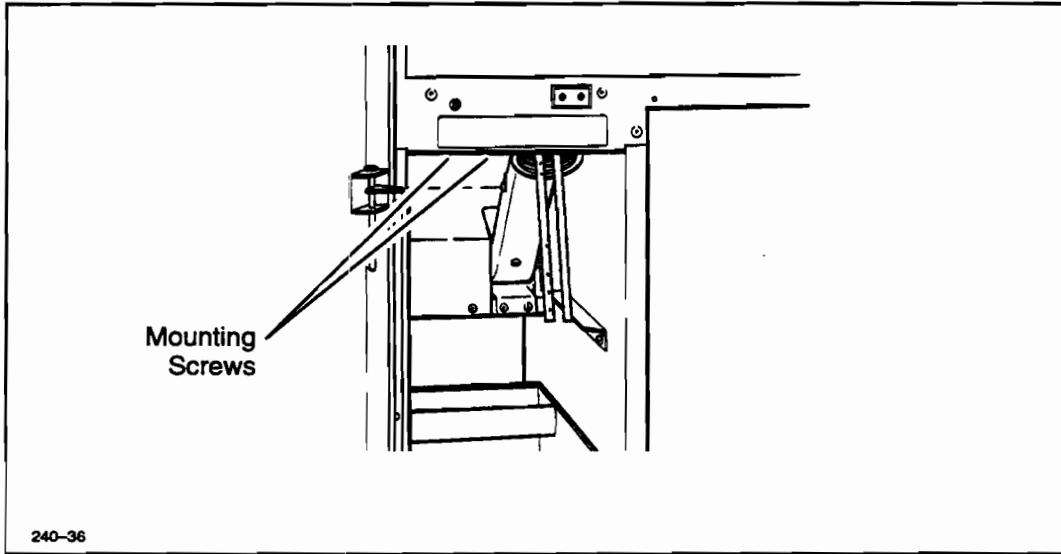

Figure 6-50. Guard Plate Mounting Screws
1. Switch the plotter OFF (O) and disconnect the ac power cord and interface cable.
4. Using a #2 Phillips screwdriver, remove the pump motor guard plate mounting screws. See Figure 6-50.
7. Using a #2 Phillips screwdriver, remove the pump motor guard plate mounting screws. See Figure 6-50.